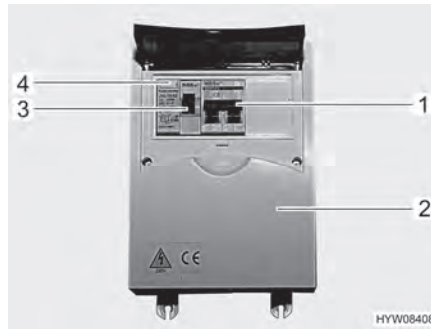

Fig. 97 230 V fuse box with safety cut-out and FI-switch
- Switch off the safety cut-out (Fig. 97,1) in the fuse box (Fig. 97,2).
- When the vehicle is connected to the 230 V supply, press the test button (Fig. 97,4) of the fault current protection switch (FI-switch) (Fig. 97,3) in the fuse box (Fig. 97,2). The fault current protection switch must trip.
- Switch the fault current protection switch (Fig. 97,3) back on again.